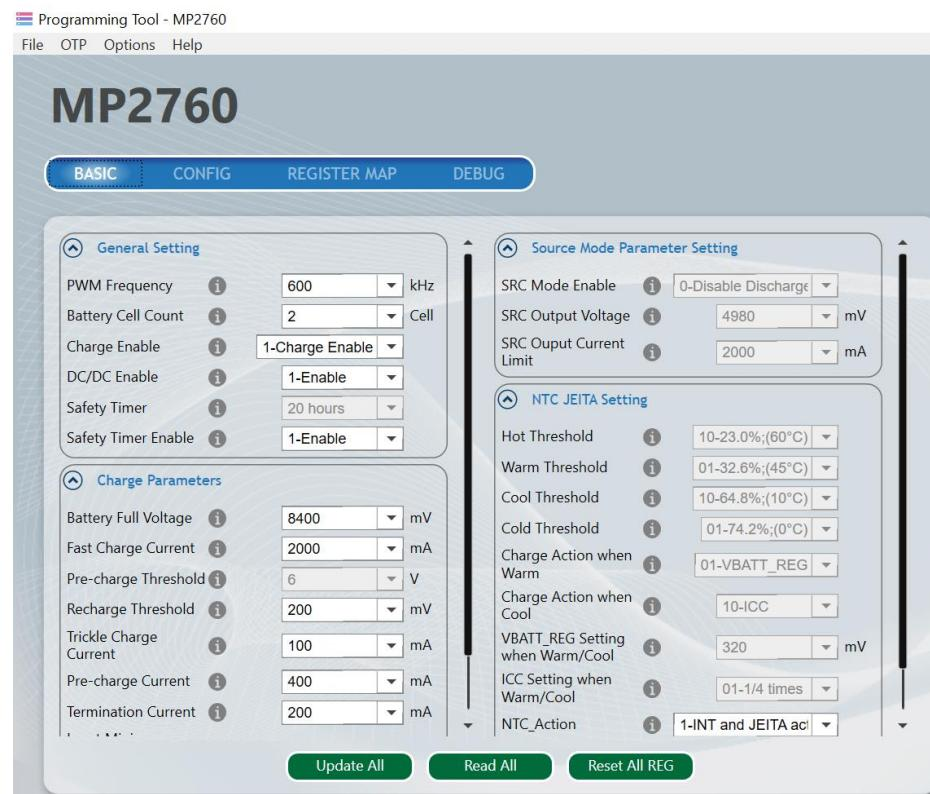

Figure 12: Adjustable Parameters in OTP Mode
4. Enter a new table in OTP view (see Figure 12). All selectable parameters can be changed.